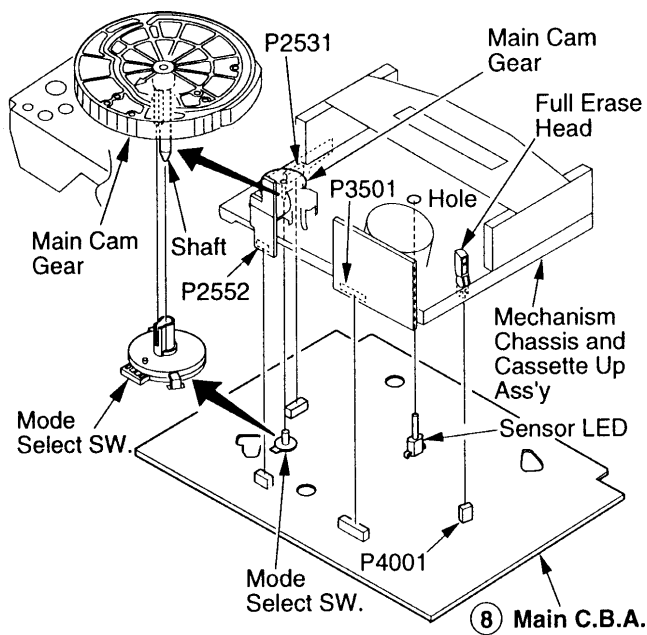

Fig. 9 - Main Circuit Board Removal
**Main Circuit Board Removal (Figs. 9, 10)**
1. Disconnect four (4) connectors (P2531, P2552, P3501, P4001) on the VCR Main circuit board (Fig 9).